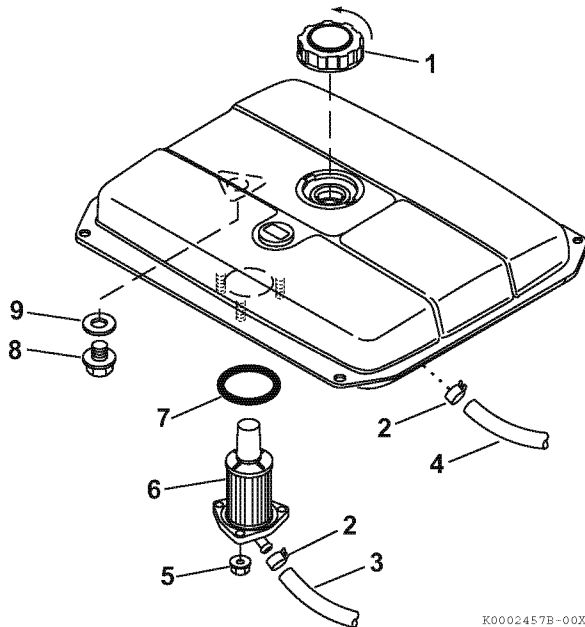

Figure 45
2. Remove the fuel cap (1, **Figure 45**).
3. Remove the fuel tank drain plug (8, **Figure 45**) and gasket (9, **Figure 45**) to drain the fuel. Inspect the gasket and replace if damaged.
4. Remove clamps (2, **Figure 45**) and disconnect fuel supply (3, **Figure 45**) and return lines (4, **Figure 45**).
6. Remove the three fuel filter nuts (5, **Figure 45**) and pull the fuel filter (6, **Figure 45**) out through bottom of the tank.
7. Install a new filter into the tank using a new O-ring (7, **Figure 45**).